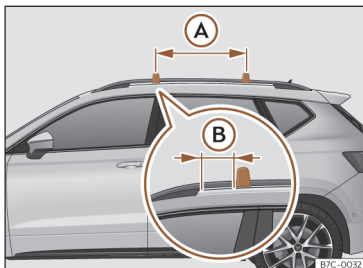

Fig. 170 Attachment points for the roof railings for the roof carrier system.
The crossbars are assembled on the roof railings. The distance between crossbars >>> **Fig. 170** (A) should be between 70 and 90 cm and the distance between the crossbars and the brackets of the roof railings (B) must be 15 cm.